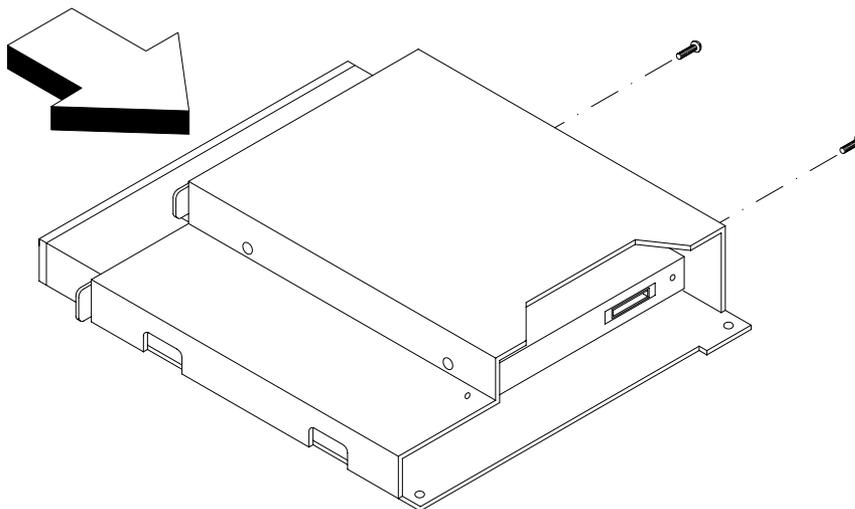

Figure 2-34 Installing the CD-ROM Drive into the Drive Module
2. Insert the CD-ROM drive into the drive module as shown in Figure 2-34.
3. Tighten the two screws located on the side of the drive module that is in contact with the side of the chassis, as shown in Figure 2-34.